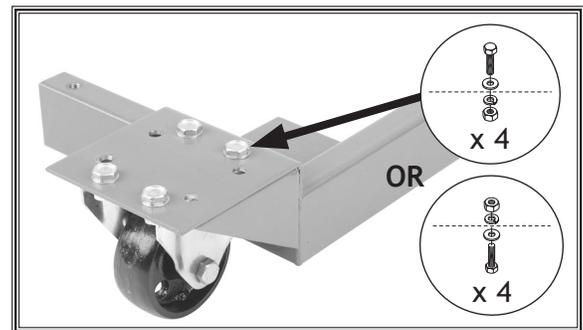

Figure 6. Options for mounting fixed casters to eight hole pattern corner brackets.
2. Mount each fixed caster to a corner bracket with the eight hole pattern using (4) M8-1.25 x 16 hex bolts, 8mm flat washers, 8mm lock washers, and M8-1.25 hex nuts, as shown in **Figure 6**.